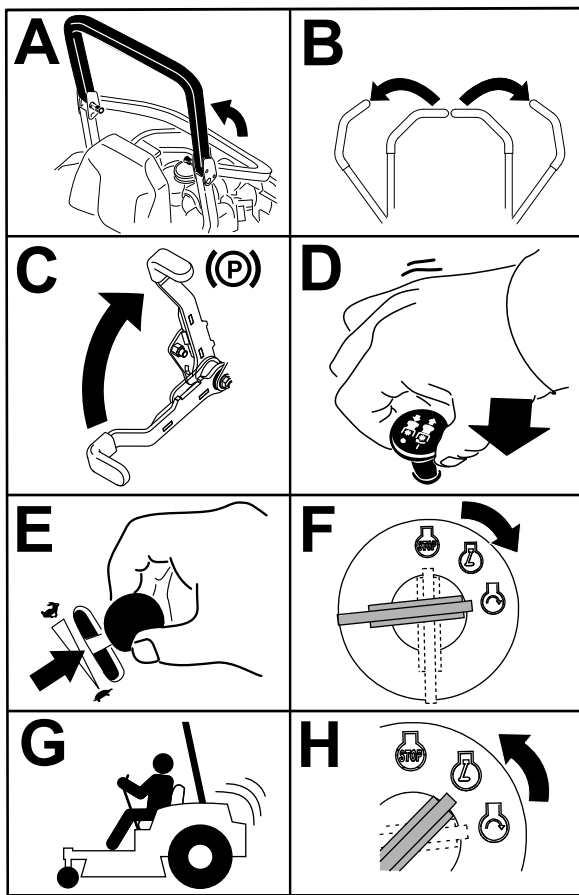

Figure 22
4. Move the blade-control switch (PTO) to the OFF position (Figure 22).